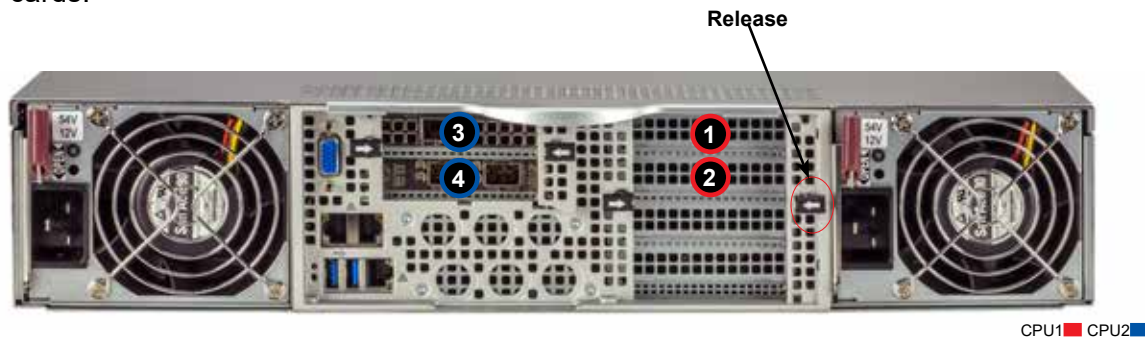

Figure 3-8. Expansion Card Chassis Slots
3. At the rear of the chassis, remove the PCI riser by unlatching the riser release (see Figure 3-8 for locations). There are two releases at the rear and one at the crossbar.